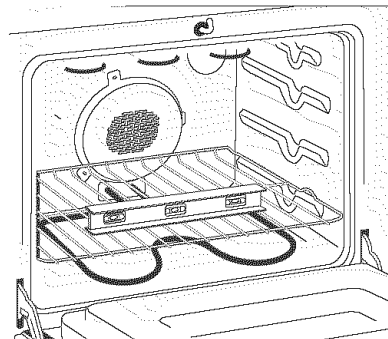

Figure 5
- Level the range. The floor where the range is to be installed must be level** (see Figure 5).